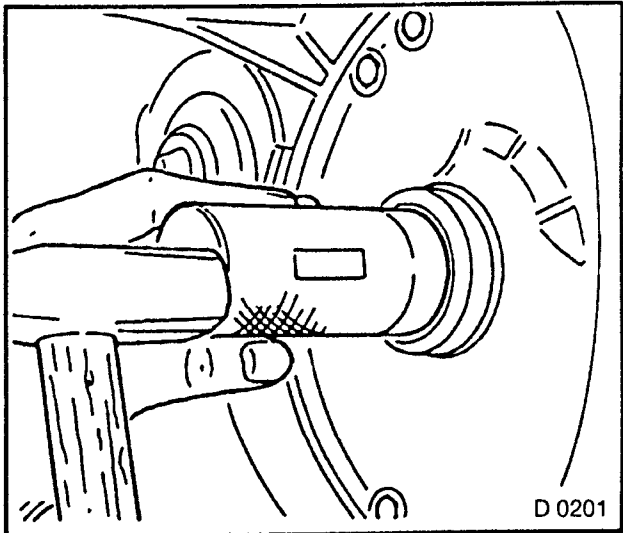

Fig 347
- 2. Drive in new fluid seal ring flush as far as upper edge of housing — KM-674. Fig. 347 shows procedure with fluid pump installed.